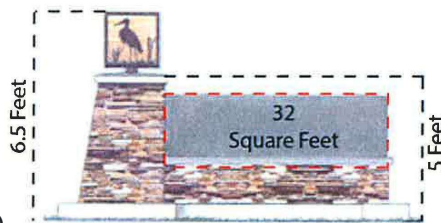

Figure 17.80.070(B)
1. Height. The maximum height shall be six feet. Additional design elements, such as those depicted in Figure 17.80.070(B), may be no higher than six and one-half feet.
3. Materials. Each sign shall, at a minimum, contain stone, rock, or brick at the base (at least two feet high). The recommended monument sign design is depicted in Figure 17.80.070(B). The materials and design shall be consistent for each sign in the development/project.